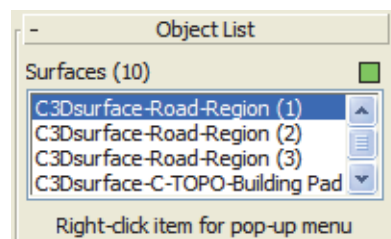

Figure 3–6
15. Verify that the *Civil Explorer* tab is open. Expand **Civil View Objects>Imported Objects**, if not already expanded. Select **Surfaces** and in the Object List rollout, note that all of the surfaces are listed, as shown in Figure 3–6.